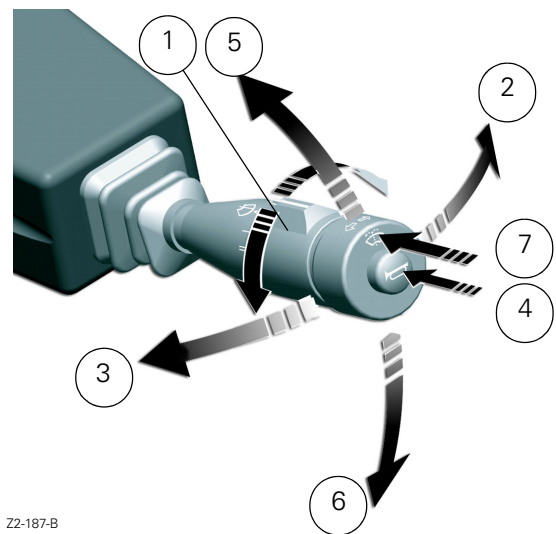

Fig. 3
**NOTE:** The tractor runs with the key in position (3); to fully disconnect all electrical equipment, the key must be moved back through the accessory position (2) to the stop position (1).
2. Control unit (see detail in Fig. 3).